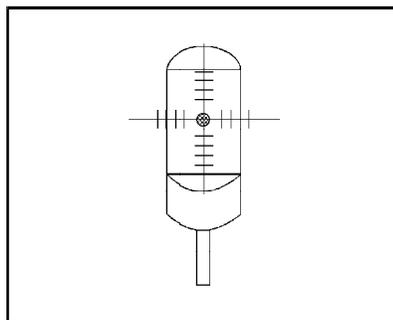

Figure 2-11. Pinhole jig aligned.
- 7) Visually center the flat side of the pinhole jig with the microscope, Figure 2-11.